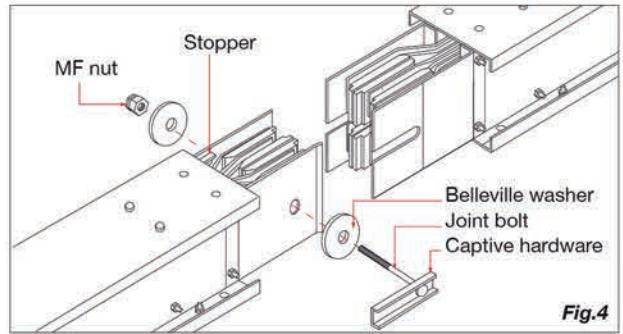
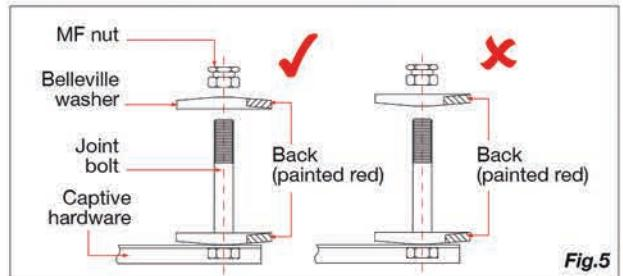

Fig.4
Fig.5
3. Align the joint ends and slide them in until the duct joint touch the stopper. (see Fig.4) When re-inserting the joint bolt, make sure the belleville washers are properly installed with the convex side facing out. (see Fig.5)